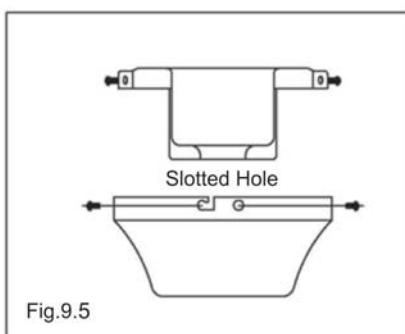

Fig.9.5
6. Place the canopy up on the hanger bracket by inserting the slotted opening of the canopy on the screws. (Fig.9.5)